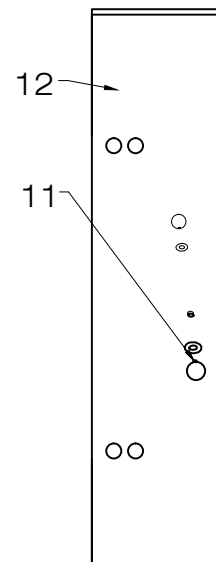

FIG.10
1. Assemble the door handles (#11) to the doors (#12). [SEE FIG.10]